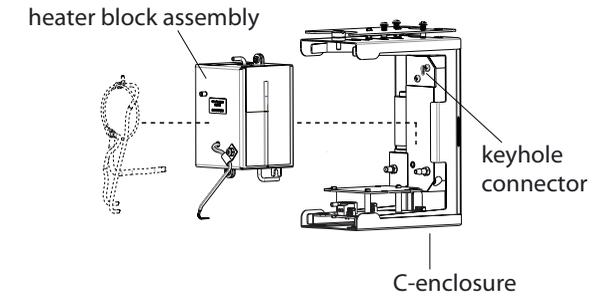

Figure 11: Removing the heater block assembly
- Remove the heater block assembly by first lifting it up and then sliding it out of the keyhole connector in the C-enclosure (Figure 11).